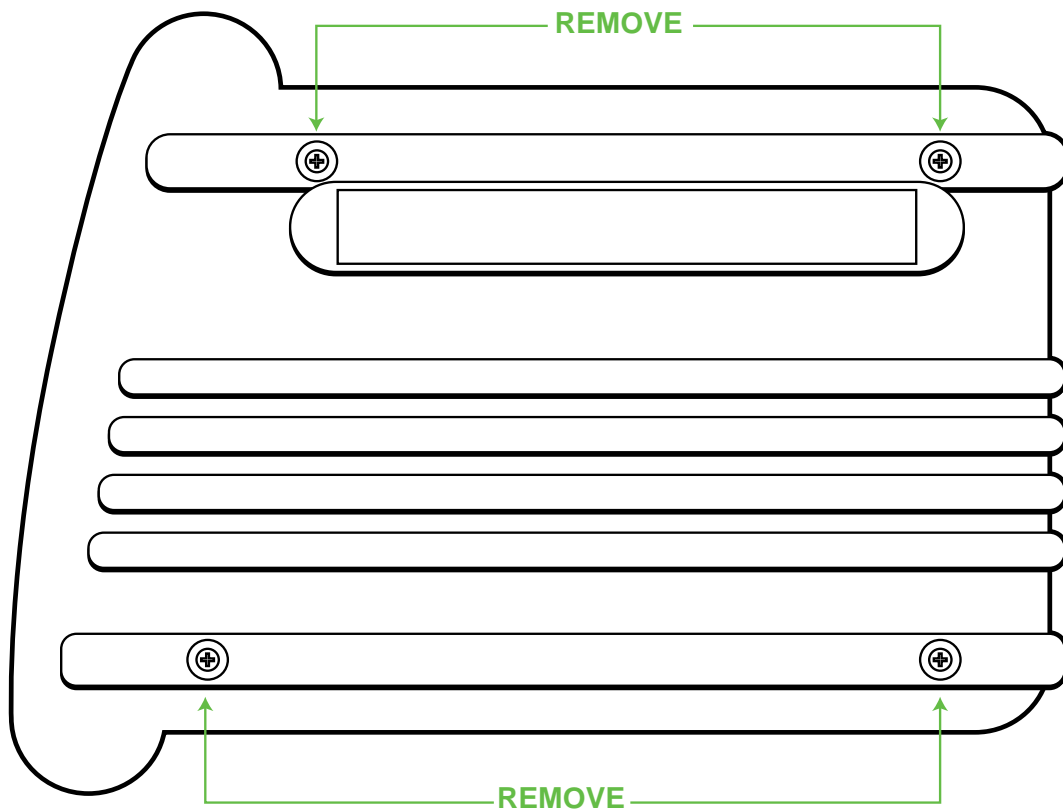

Figure 5-24. Right Side Cover
- 11. Remove the four (4) screws from the right side of the ventilator as shown in Figure 5-24.